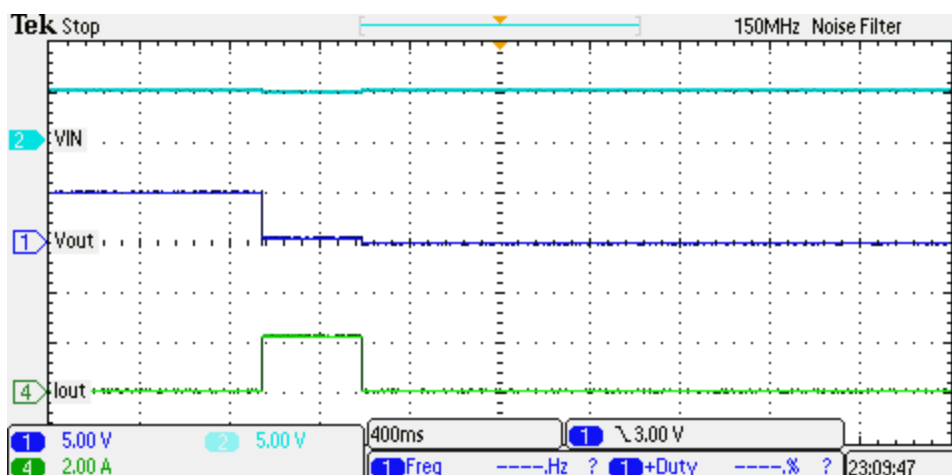

Figure 3. J3 = "ILIM-LO" Current Limit (2.1 A) Test-Latched Feature (CH1)
- Set the output load at $0.5 \pm 0.1 \Omega$ on CH1 and then enable the load. Turn on the VIN1 power supply, verify that input current is limited as per the setting in Table 9 and the device is in latched mode, as shown in Figure 3. The level of the current pulse should match with the load current limit (based on the respective jumper setting) as per Table 9.